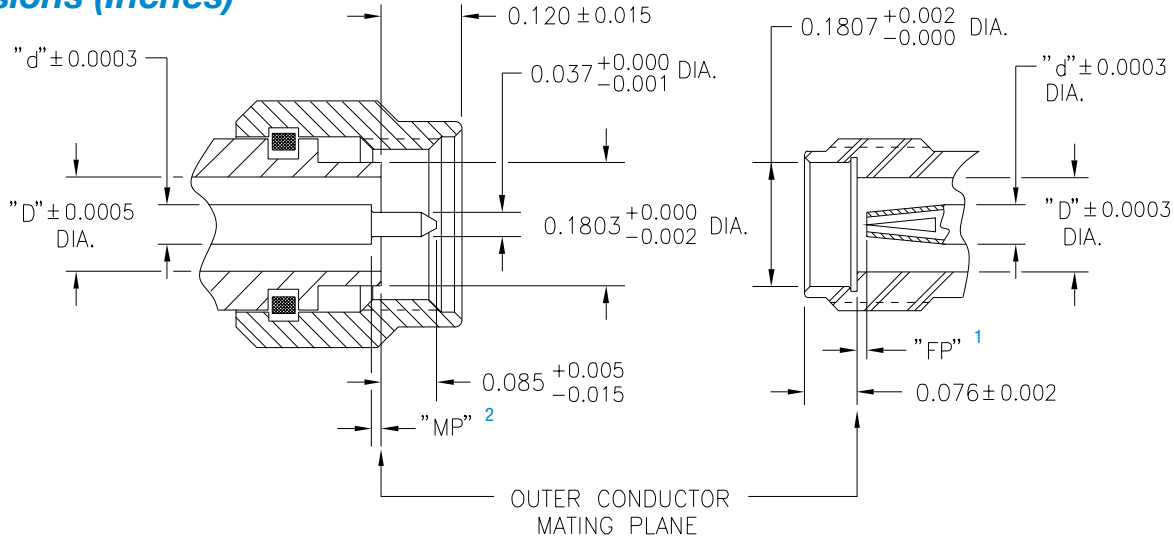

Figure 1. Critical Contact Pin Location Dimensions of 3.5mm & 2.92mm Precision Connectors.
The Maury A034B is designed to provide a fast and accurate means of checking the critical center conductor contact pin locations of 3.5mm (APC3.5) and 2.92mm (K) connectors relative to the outer conductor mating plane. The critical interface dimensions are shown in Figure 1.
The critical contact pin locations of 3.5mm and 2.92mm female and male precision connectors are shown in Figure 1. These dimensions must be maintained in order to provide proper electrical performance and mechanical mating of the connectors. The connectors are designed to achieve a co-planar mating of the center conductors and outer conductors at the outer mating plane. Destructive interference will result if the contacts protrude beyond the outer conductor mating planes. This interference may cause buckling of the female contact fingers or damage to associated equipment during mating. Alternately, an excessive gap of the mated center contacts produces high reflections and reduces peak power handling capability. These precision connectors should be gaged routinely to ensure compliance to applicable specifications, to prevent destructive mating, and to ensure proper electrical performance. Additionally, connectors on all equipment should be gaged periodically to detect out of tolerance conditions which may impair electrical performance or cause damage to mating connectors. The A034B is very useful in a variety of applications such as: production checkout, incoming inspection, quality control and laboratory measurements.
NOTE: Minus (-) tolerances indicate a recessed condition from the outer conductor mating plane. Plus (+) tolerances indicate a protruding condition above the outer conductor mating plane. Other dimensions shown in Figure 1 are included because they affect the mating of the gage assembly's gaging mechanisms (bushing and pin). Deviation from these dimensions may cause measurement errors or improper fit between the gaging mechanisms and the connectors being measured. Consult our Customer Service department on measuring connectors with interface dimensions other than those specified above.